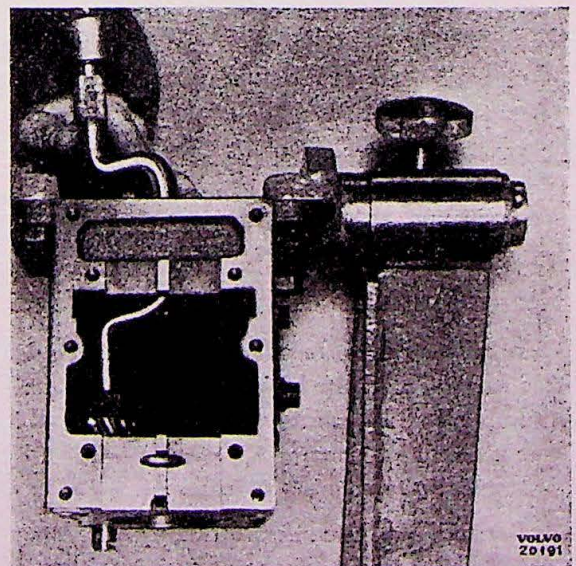

Fig. 8.
7. Loosen bearing cover (2) at gearbox front end. Drive out main drive pinion (1) forwards by means of driver SVO 4135. Place tool SVO 4150 (use SVO 4151 for type H-4) at the shaft end supporting the driver. Lift the counter gear set out of gearbox housing. Be careful not to drop ball bearings (33 and 37).
8. Remove reverse shaft by means of tool SVO 4023, fig. 8, and lift reverse gears out.